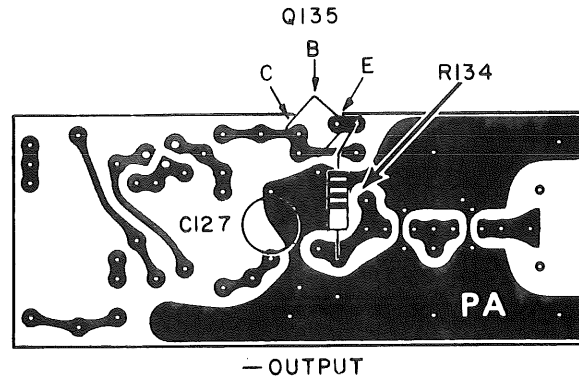

FIG. 1
- 10) Install R134, a  $200\Omega$  1/2 W 5% resistor, on the - Output board in its new location. See Fig. 1.